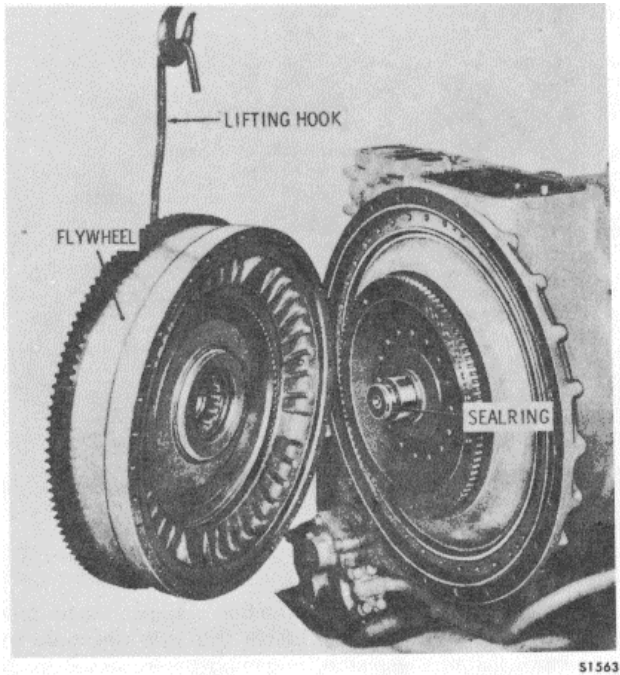

Figure 15-179. Installing Flywheel Assembly
7. Using a lifting hook, install the flywheel with lockup clutch components onto the transmission (Figure 15-179). The two anchor keys must engage respective slots in the lockup clutch backplate.